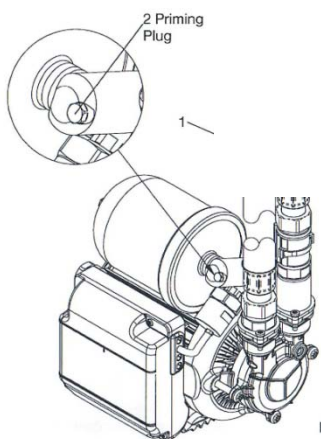

Fig 1.1a Pump priming plug
- 1.2.5 Ensure the pump is primed before starting otherwise the pump seal will be damaged and cause a leak (see fig 1.1a).
- 2.2.10 ensure the pump is primed (filled with water) before starting otherwise the pump seal will be damaged and cause it to leak (see fig 1.1a).